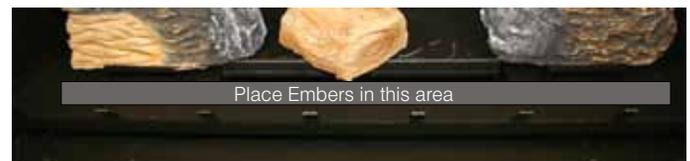

Figure 30f. Placing Embers.
Step 8. Place the Right Center log as shown using the notch in the Top Right log as a guide, figure 30f.
Step 9. Place the Embers as shown in figure 30f.